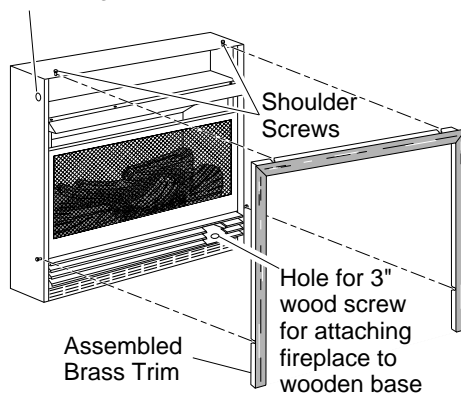

Figure 12 - Attaching Brass Trim to Fireplace
5. Firmly snap brass trim kit on shoulder screws. Shoulder screws are located on fireplace cabinet (see Figure 12).
7. Use two 3" wood screws provided and attach fireplace base to wooden base (see Figure 12).
14. Place brass trim kit on the shoulder screws located on the side and top of the fireplace. Firmly snap the brass trim over the shoulder screws on fireplace (see Figure 12).
15. Adjust assembly to remove any gaps. Attach remaining two 3" wood screws from hardware pack through openings inside of fireplace sides into the mantel. The openings are located at top behind the area for the brass louvers (see Figure 12).